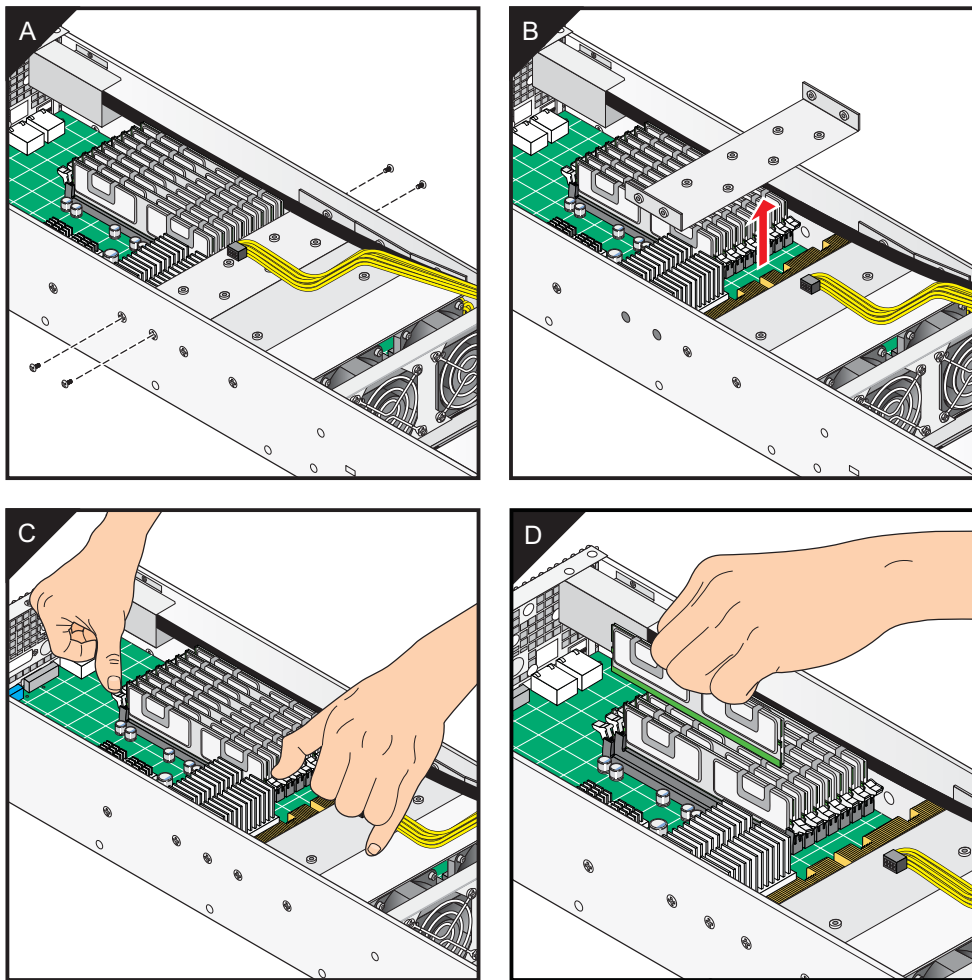

Figure 3-15 DIMM Removal
2. Remove the air baffle in accordance with the instructions on page 73, (refer to Figure 3-15, A and B).
3. Press down on the latches to release the DIMM (refer to Figure 3-15, C).